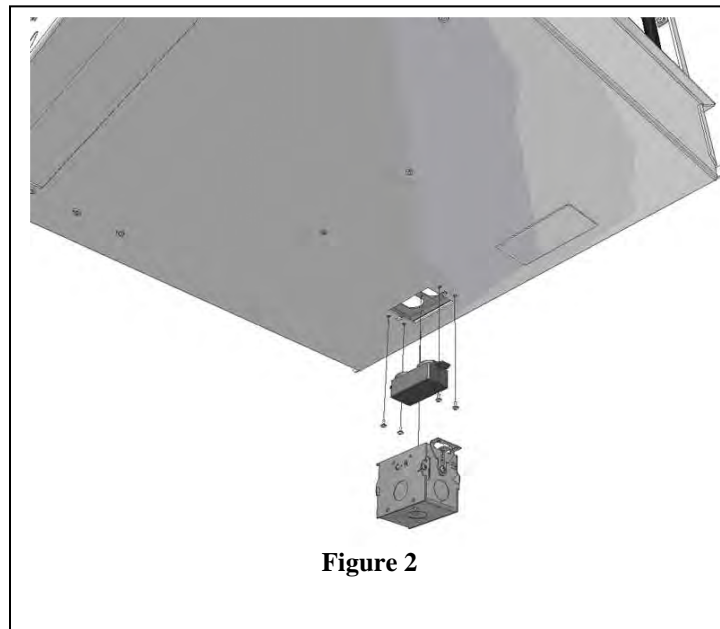
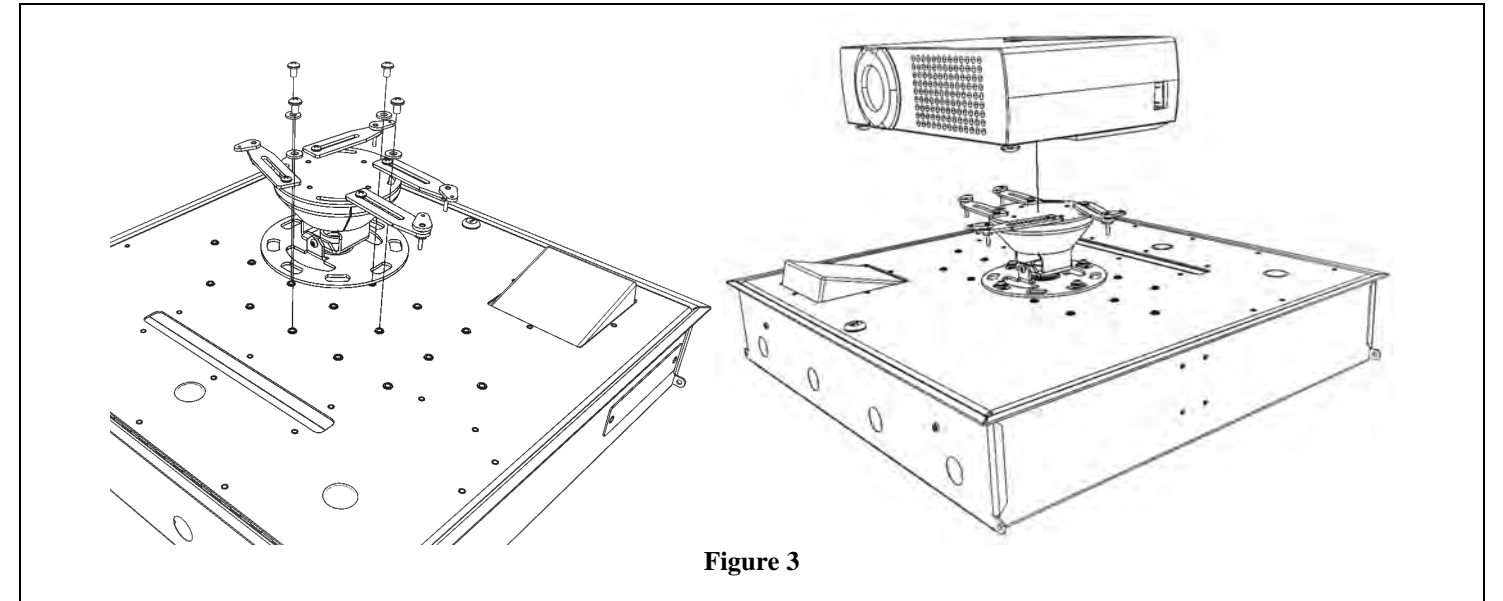

Figure 2
Figure 3
**Step 2** – Attach the electrical junction box to the cutout located near the back of the enclosure (Figure 2) with four (4) #6-32 screws.
**⚠️\*\*IMPORTANT\*\*** - The electrical junction box must be attached to the back box with all four (4) screws for it to be grounded properly. A power supply outlet MAX 125VAC, 20A should be used.
**Step 3** - Prior to installing the projector mount find a suitable location for the enclosure to be mounted in the ceiling. There is a pattern of holes on the door that allow you to move the mount from side to side giving the installer several inches of freedom to move the projector if projector screen is not perfectly centered. Install Chief Projector Mount (P/N CHIICPRIA1T03 or SANVMPIR1B) w/ the (4) #10 - 32 screws provided with the mount (Figure 3). For added security, Chief provides a special hex screw that can only be used with the manufacturers hex key.
**Step 4** - The Chief Projector Mount has arms that extend to several different positions (Figure 3). Attach the projector to the Chief Projector mount according to the manufacturers instructions (provided with the mount). Make sure not to tighten the screws completely because adjustments may need to be made.